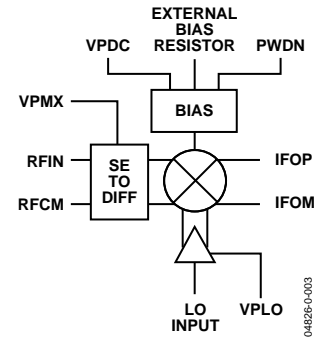

Figure 35. AD8344 Simplified Schematic
The AD8344 is a down converting mixer optimized for operation within the input frequency range of 400 MHz to 1.2 GHz. It has a single-ended, 50  $\Omega$  RF input, as well as a single-ended, 50  $\Omega$  local oscillator (LO) input. The IF outputs are differential open collectors. The mixer current can be adjusted by the value of an external resistor to optimize performance for gain compression and intermodulation or for low power operation. Figure 35 shows the basic blocks of the mixer, which includes the LO buffer, RF voltage-to-current converter, bias cell, and mixing core.